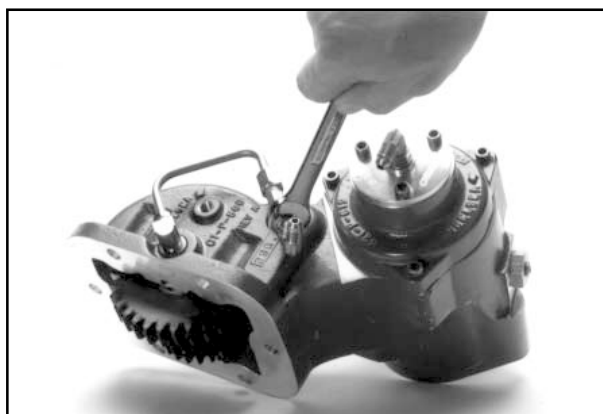

Figure 2
2. Install the 90° swivel elbow (379703) with a 9/16" wrench on to the branch tee as shown in **Figure 2**.